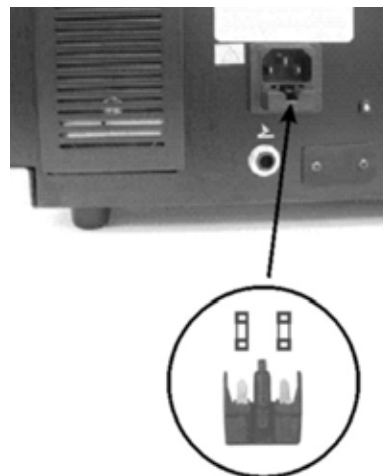

Figure 9-1, Fuse Locations
1. Remove input power to the instrument and press down on the tab in the middle of the Power Input Module to release the Fuse Holder. Refer to Figure 9-1.